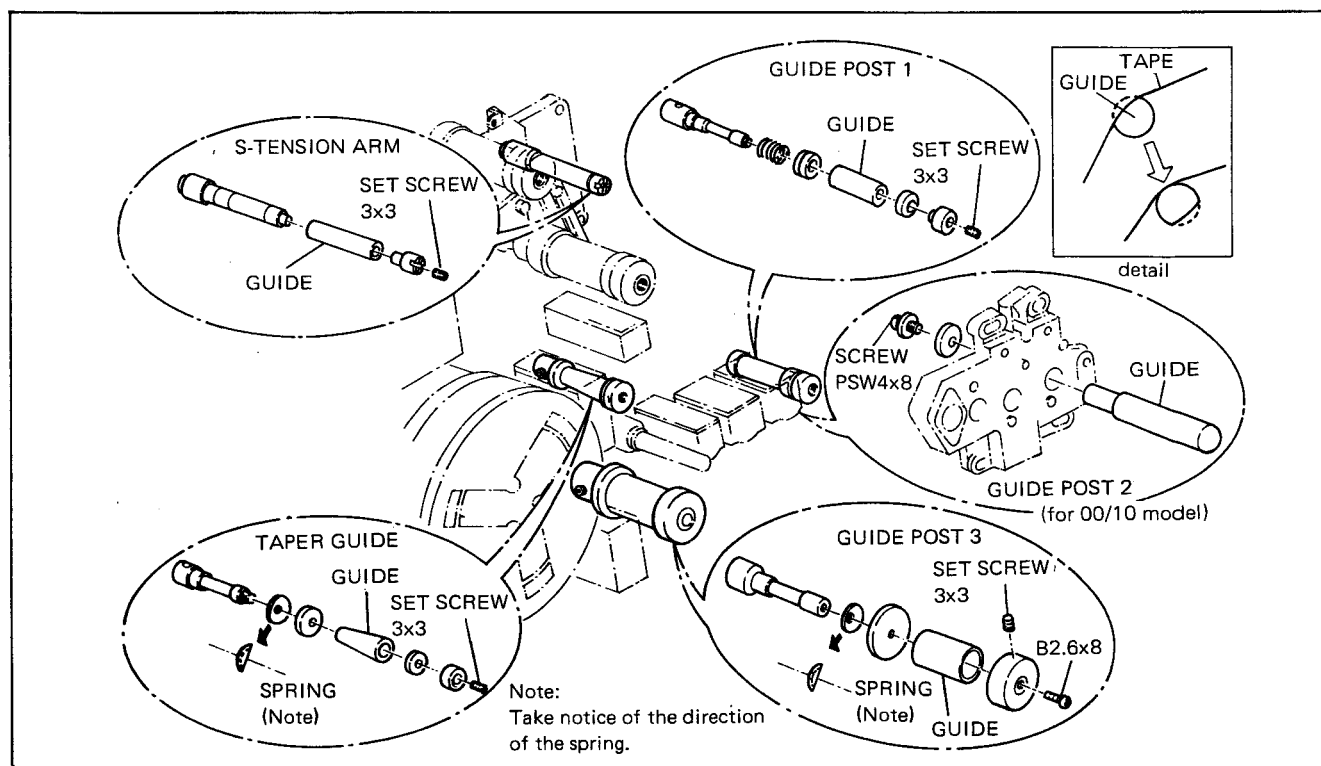

Fig. 6-21. Replacement of Guide Posts
- C. When the guide has been worn out, turn the worn surface (see the detail of Fig. 6-21) into the position not coming in contact with the tape and check each item of the above B.
1. Replace the defective part, referring to Fig. 6-21.